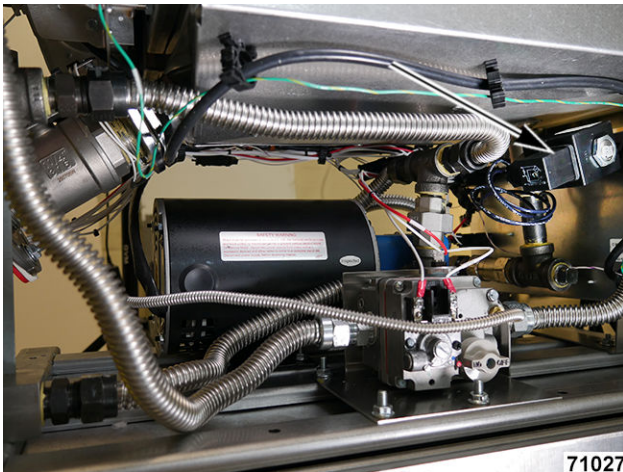

Fig. 52
3. Disconnect union from pump (Fig. 52).